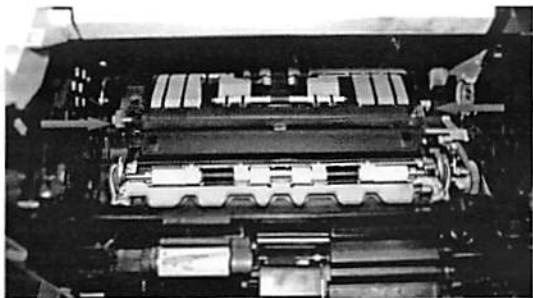

Fig. 2
- 3 Using the blue transfer roller removal hook, lift the end of the metal shaft up; slide the transfer roller to the left to remove it. (Fig. 2)